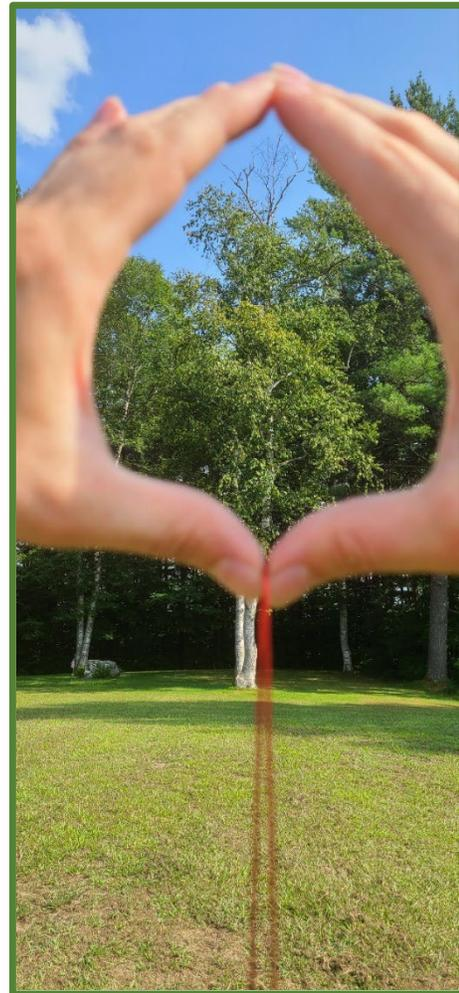

Figure 2.3.16—Using a hand and plumb bob combination.
- **When using your hand and plumb bob together**, hold the plumb bob to eliminate visual error from the hand method (figure 2.3.16).